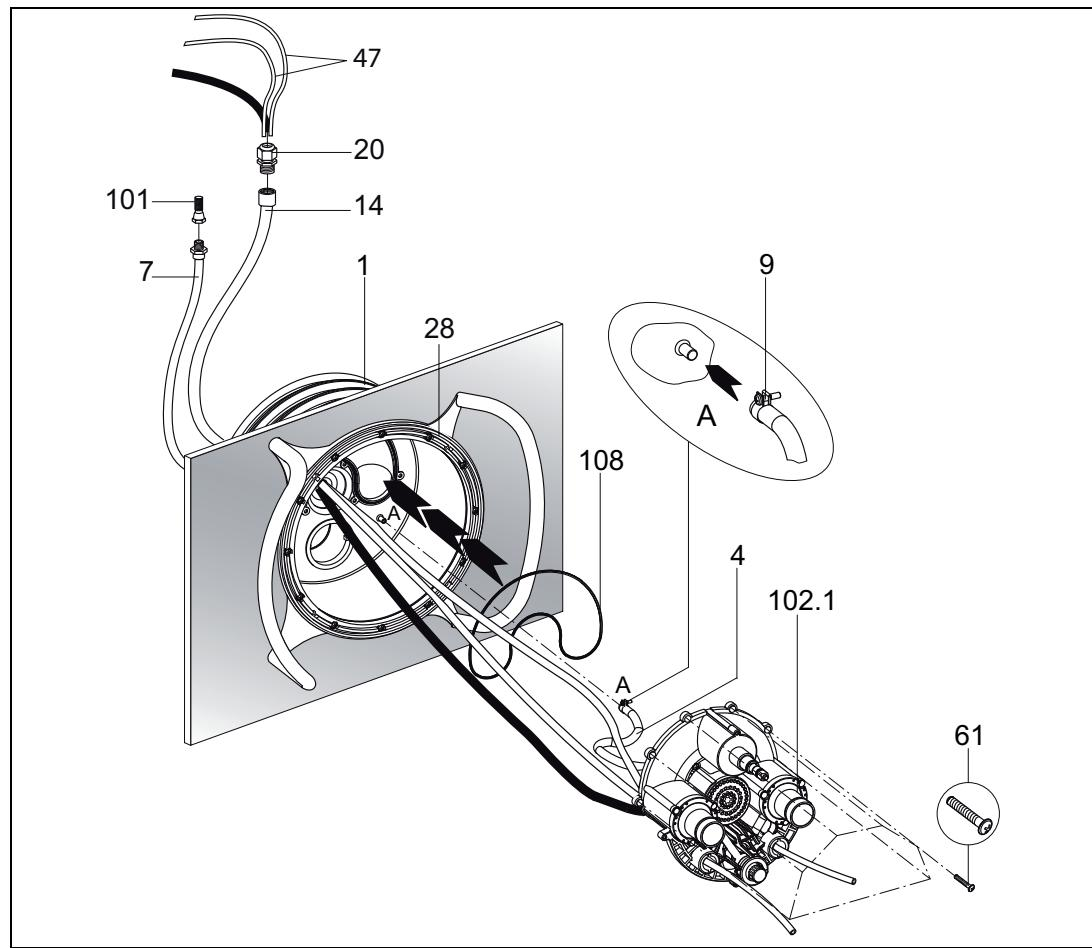

Fig. 10
2. Insert the O-ring (**108**) in the main housing (**1**) (*Fig. 10*).
3. Screw the ten enclosed tapping screws (**61**) into the nozzle housing. Place the pre-assembled nozzle housing (**102.1**) onto the main housing (**1**) (*Fig. 10*).
4. Lead the pneumatic hoses (**47**) and floodlight cables through the protective conduit (**14**) and seal with the cable gland (**20**) (*Fig. 10*).
5. Fasten the internal air line (**4**), which is already completely pre-assembled at the nozzle housing (**102.1**) or air regulator, to the main housing (**1**) with the hose clamp (**9**) (*Fig. 10*).
6. Lead the pneumatic hoses through the lower or outer openings of the nozzle housing (**102.1**) (light ON/OFF left; pump ON/OFF right); (*Fig. 10*)
7. Align the complete nozzle housing (**102.1**) to the main housing (**1**) and fasten the ten pre-assembled tapping screws (**61**) (*Fig. 10*).